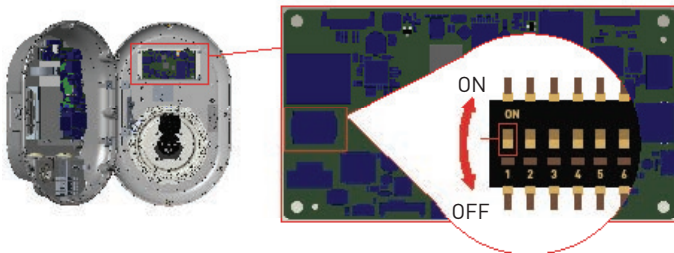

Figure.28
- Toggle the first position of dip switch which is on the smart card of the charger shown in figure 28. After that please turn on the charger again.